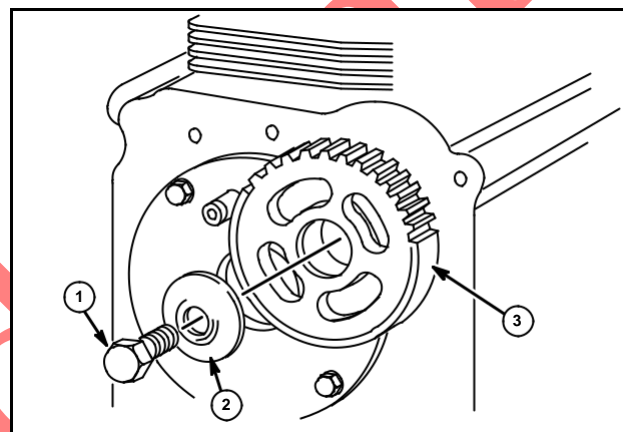

Fig. 4
1. Remove short bolt (1) and Belleville washer (2) from PTO drive gear (3), Fig. 4.